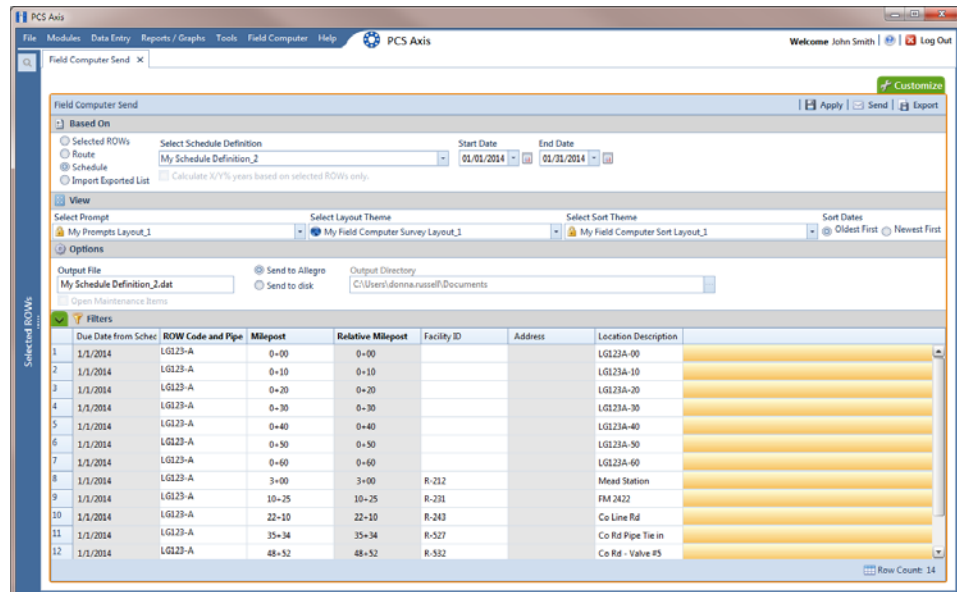

Figure 13-28. Select Layout Theme
- 14 To apply the new layout theme to the grid, click the down arrow in the field **Select Layout Theme** and select the layout theme in the selection list. Then click  **Apply** to update the grid (Figure 13-28).